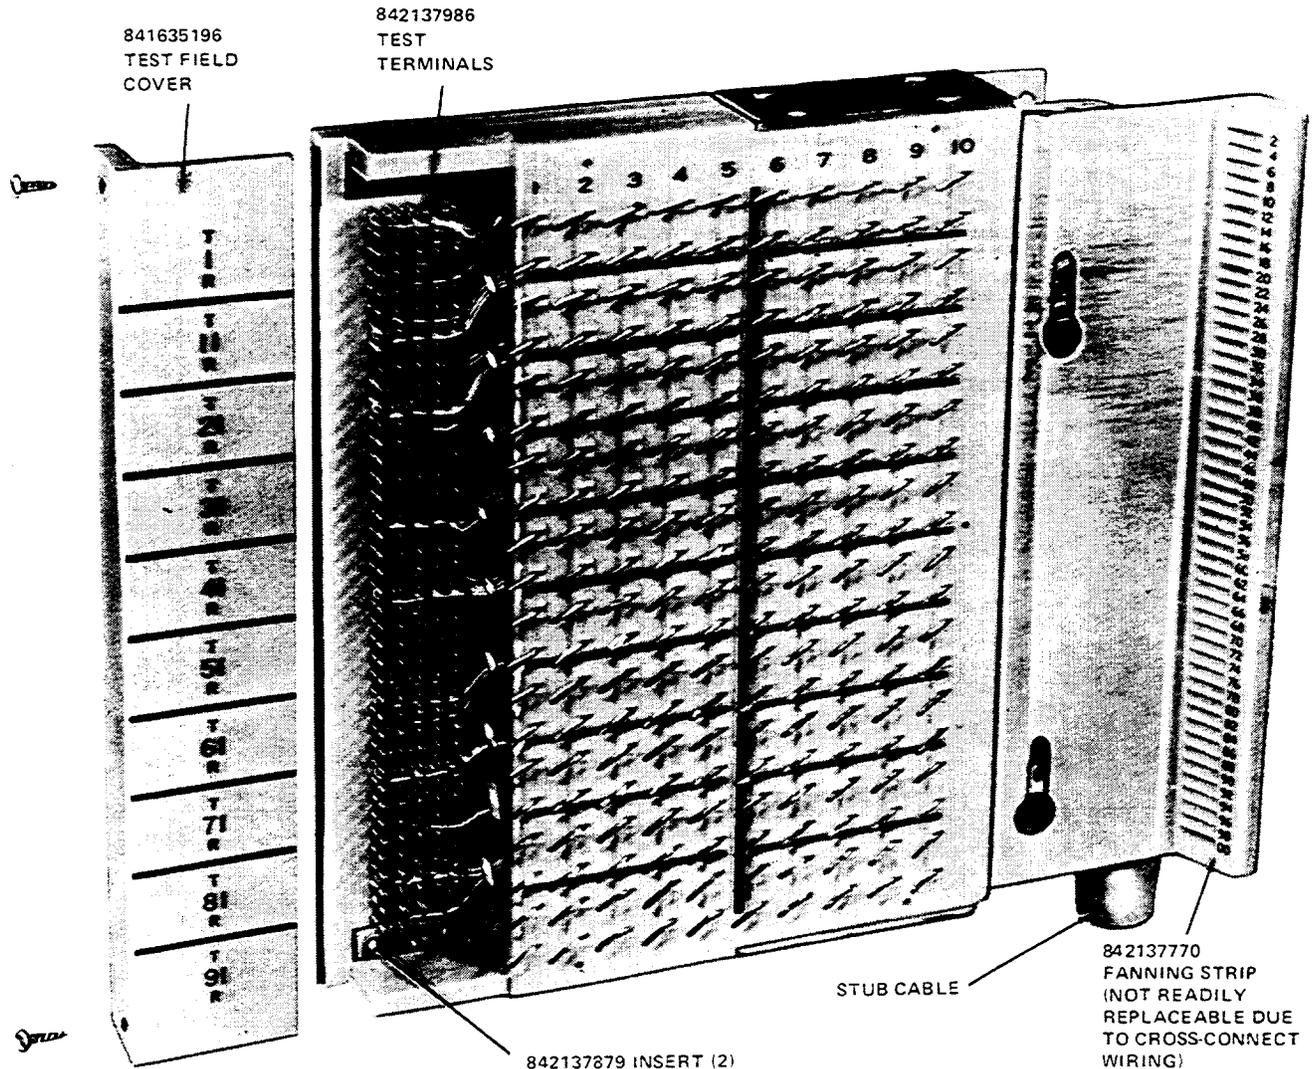

Figure 10—305-Type Connector, Test Field Cover and Terminal Guard Removed
5.01 *841635196 Test Field Cover (Figure 10):* To replace the cover, proceed as follows:
**5.04** 842137879 *Insert (Figure 10 and 11)*: The 100-pair M test connector attaches to the 305-type connector by means of two thumbscrew fasteners which engage threaded inserts at the top and bottom of the test contact field. Replace the threaded inserts as follows:
- (1) Facing the front of the connector, remove the test field cover as directed in paragraph 5.01, Steps (1) and (2).
- (2) Observe the mounting of the inserts. At the left side of the connector, remove and retain the two flat-head screws that secure the insert in position.
- (3) Remove the insert carefully to prevent a short in the test terminal field (Figure 10).
- (4) Install the new insert and secure it with the two screws removed in Step (2).
- (5) Replace the test field cover as directed in paragraph 5.01, Steps (3) and (4).
**6.01** To repair a broken or damaged wire conductor leading from the moisture plug of the stub cable and through the mounting bracket of the 305-type connector (Figure 10), proceed as follows: